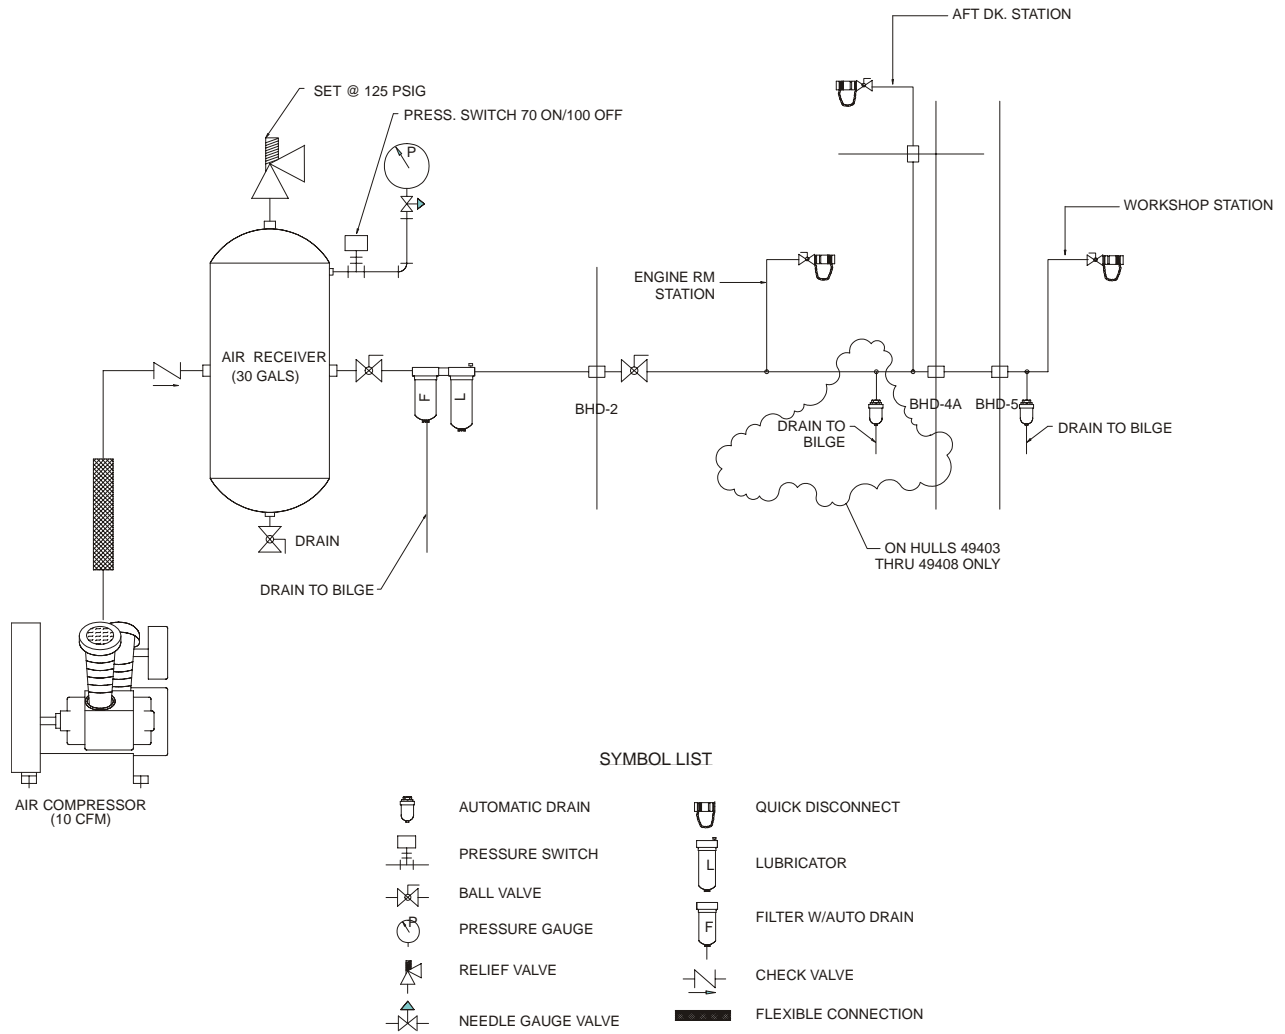

Figure 3-52
- R.1. General** A low pressure, compressed air system (**figure 3-52**) is provided for the operation of pneumatic tools and other maintenance activities. The system consists of the following: